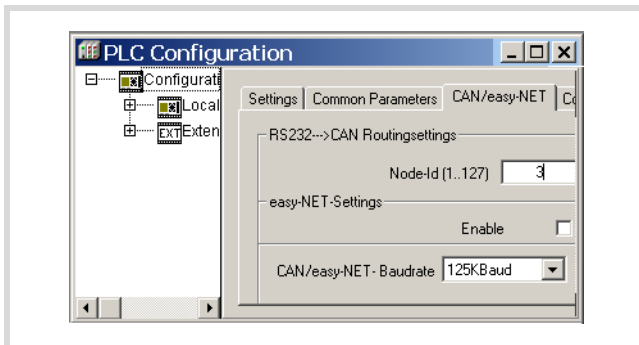

Figure 85: CAN Master routing settings
Set the routing ID and the CAN baud rate in the CAN/easyNet tab of the Configuration folder as shown in figure 85.
- One ID for the routing function: The routing ID and the CAN baud rates are set as shown in figure 85 in the CAN/easyNet tab. As node ID set for example "54".